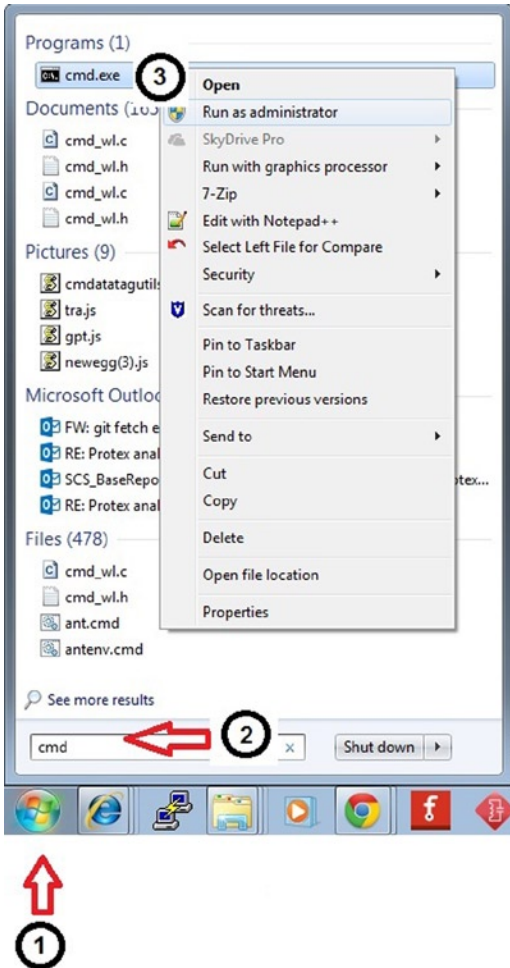

Figure 3-18. Starting the Command Prompt as an administrator on Windows 7
1. Start the Command Prompt (`cmd.exe`). If you are using Windows 7, you must start the Command Prompt as the administrator. According to Figure 3-18, click in the Start icon (1) and type `cmd`, as shown in the figure (2). Don't press Enter. As soon you type `cmd`, you will see the `cmd.exe` file available in Programs, as shown in Figure 3-18 (3).